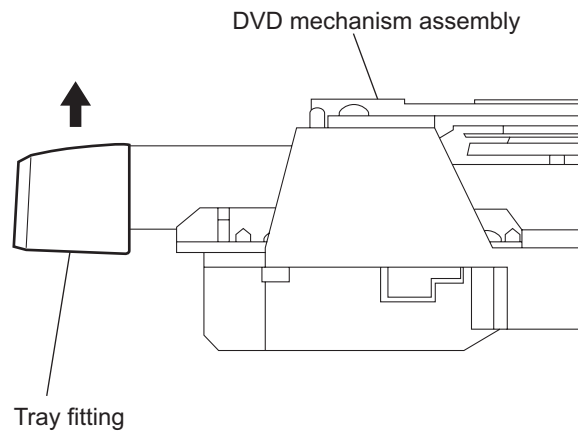

Fig.13
- Remove the tray fitting from the DVD mechanism assembly in the direction of the arrow. (See Fig.13.)